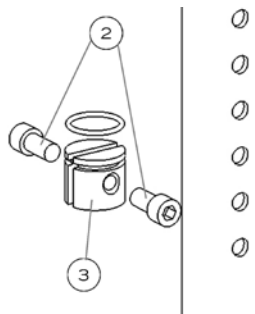

Fig. 23
- Remove screws (2) (Fig. 23).
- Inside the armrest tube, slide the dowel nut with a long flat screwdriver at the desired height (3)
- Reinstall screws (2).